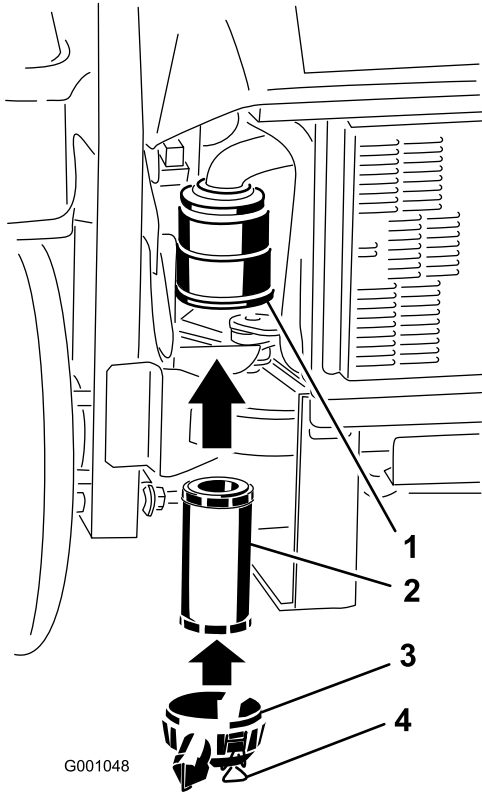

Figure 44
2. Carefully slide the filter into the filter body (Figure 44). Ensure that it is fully seated by pushing on the outer rim of the filter while installing it.
3. Install the air cleaner cover and secure the latches (Figure 44).